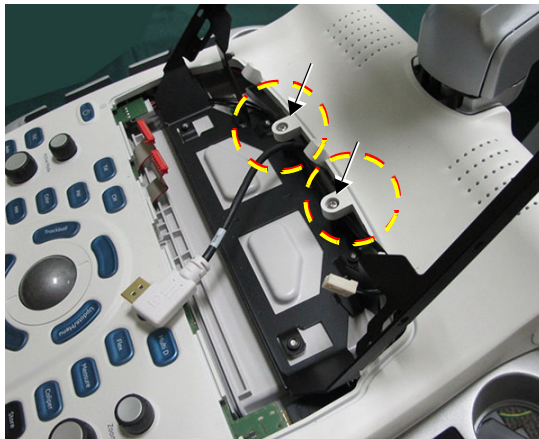

Figure 8-87 Removing Securing Screws
- 2) Unscrew and remove the two securing screws fastening the chassis to the top of the keyboard assembly - shown in Figure 8-87.
- 6.) From the top of the keyboard assembly, carefully slide the Touch Screen Chassis Panel out from beneath the two screw plastic flanges (shown in Figure 8-87) and lift the chassis upwards to release it from its location.